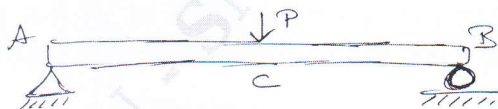

Fig.Q2(b)
- b. Use Rayleigh – Ritz method to find the deflection at the centre of a simply supported beam of span length “ l ” subjected to a concentrated load “ P ” at its midpoint as shown in Fig.Q2(b).